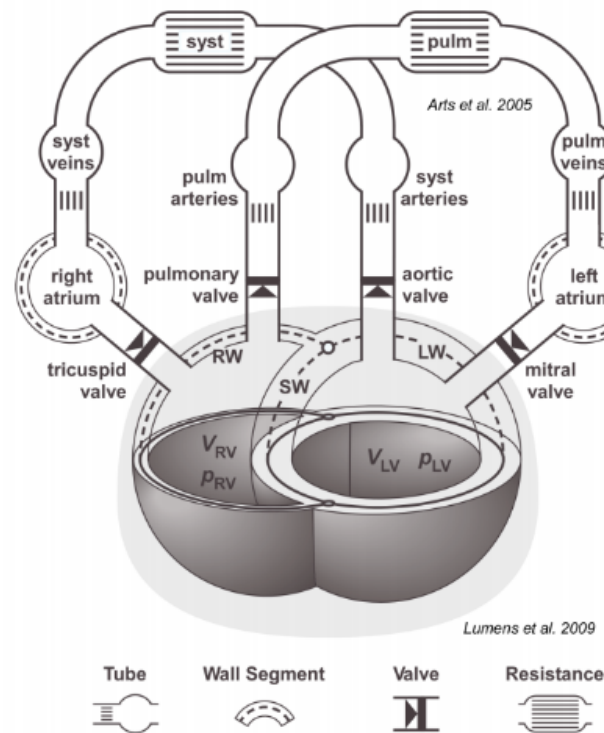

Figure 1. Schematic overview of the CircAdapt model [1].
- Would be a good idea to include a schematic overview of the design similar to the one in Figure 1